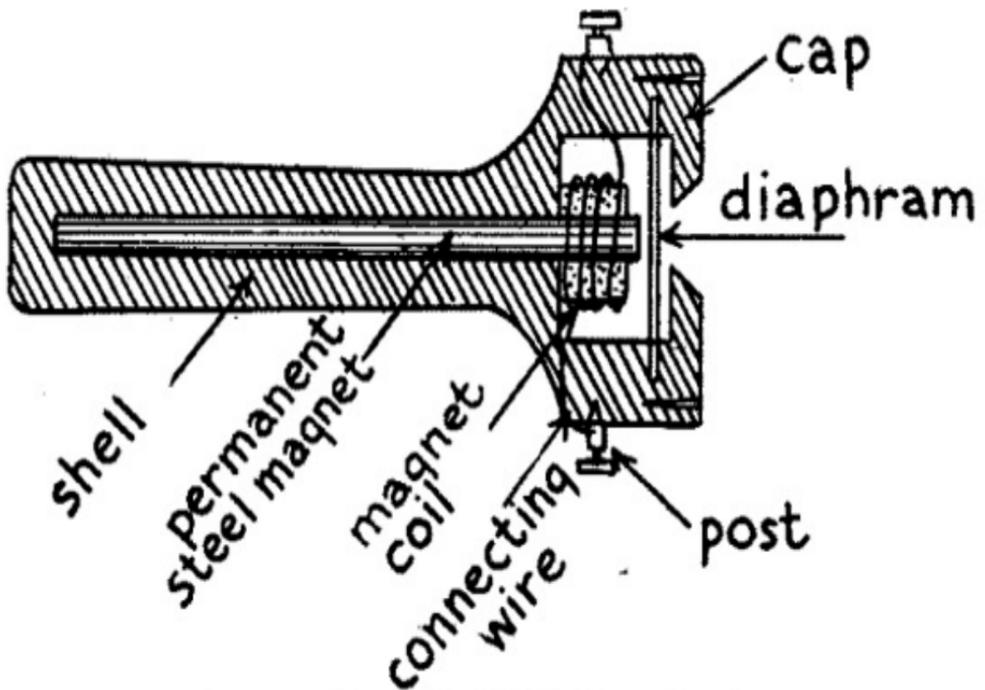

FIG. 62.—Cross-section of Bell Telephone Receiver.
*How a Bell Telephone Receiver Is Made.*--An ordinary telephone receiver consists of three chief parts and these are: (1) a hard-rubber, or composition, shell and cap, (2) a permanent steel bar magnet on one end of which is wound a coil of fine insulated copper wire, and (3) a soft iron disk, or *diaphragm*, all of which are shown in the cross-section in *Fig. 62*. The bar magnet is securely fixed inside of the handle so that the outside end comes to within about  $\frac{1}{32}$  of an inch of the diaphragm when this is laid on top of the shell
*How the Headphones Work.*--As you will see from the cross-sections in *Figs. 62* and *63* there is no connection, electrical or mechanical, between the diaphragm and the other parts of the receiver. Now when either feeble oscillations, which have been rectified by a detector, or small currents from a *B* battery, flow through the magnet coils the permanent steel magnet is energized to a greater extent than when no current is flowing through it. This added magnetic energy makes the magnet attract the diaphragm more than it would do by its own force. If, on the other hand, the current is cut off the pull of the magnet is lessened and as its attraction for the diaphragm is decreased the latter springs back to its original position. When varying currents flow through the coils the diaphragm vibrates accordingly and sends out sound waves.